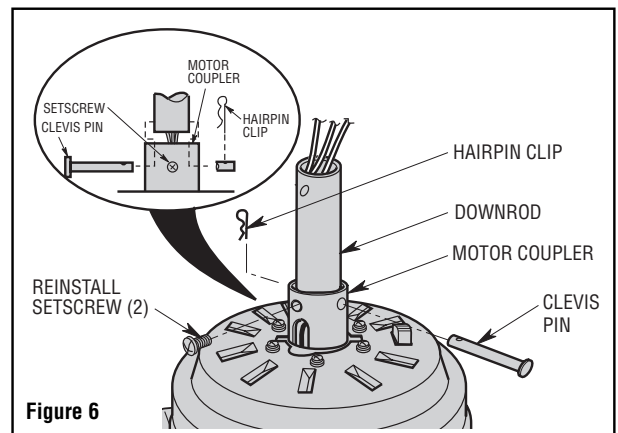

Figure 6
10. Separate, untwist and unkink the three 80" motor leads. Route the motor lead wires through the downrod. Align the clevis pin holes in the downrod with the holes in the motor coupler. Install the clevis pin and secure with the hairpin clip (Figure 6). The clevis pin must go through the holes in the motor coupler and the holes in the downrod. Be sure to push the straight leg of the hairpin clip through the hole near the end of the clevis pin until the curved portion of the hairpin clip snaps around the clevis pin. The hairpin clip must be properly installed to prevent the clevis pin from working loose. Pull on the downrod to make sure the clevis pin is properly installed.
11. While pulling up on the downrod, reinstall and tighten the two setscrews (previously removed in Step 6) in the motor coupler (Figure 6).
It is critical that the clevis pin in the motor coupler is properly installed and the setscrews securely tightened. Failure to verify that the pin and setscrews are properly installed (as shown in Figure 6) could result in the fan falling.